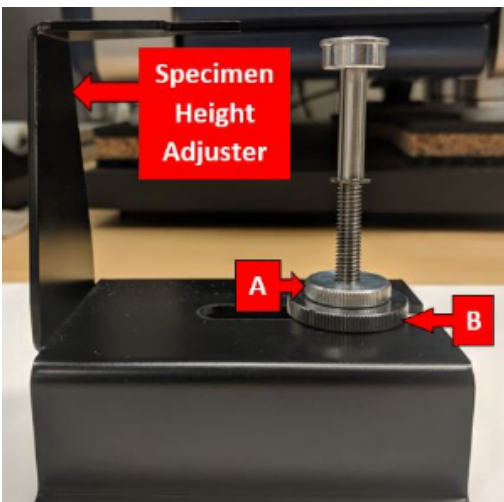

Figure 4. Specimen Height Adjuster with sample stage. A: Top locknut B: Bottom locknut
4. Place the sample stage in the black Specimen Height Adjuster tool (Fig 4). The height of sample screw can be adjusted via the two lock nuts, A and B, in the figure below.